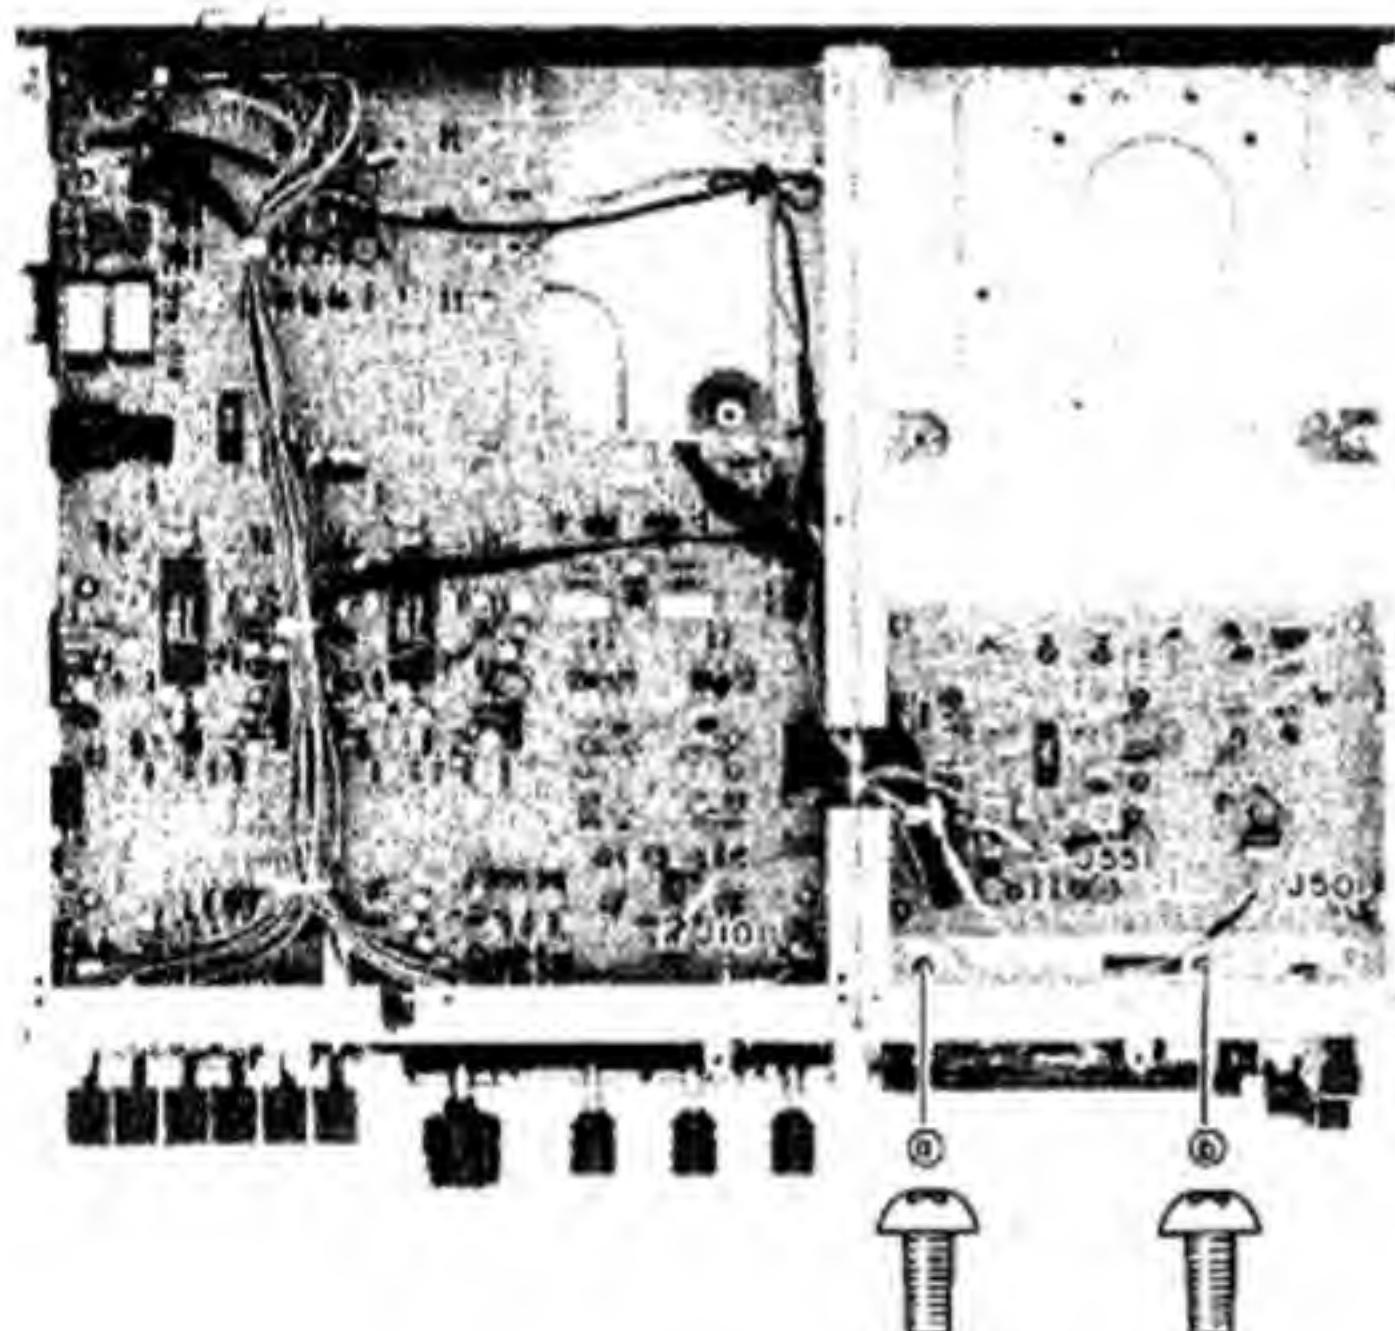

Fig. 4-3
- 1) Remove connector J101 from the PRE AMP PCB and the J501 and J551 from the OSC PCB. Next, remove mechanism block securing screws ④ and ⑥. (See Fig. 4-3.)